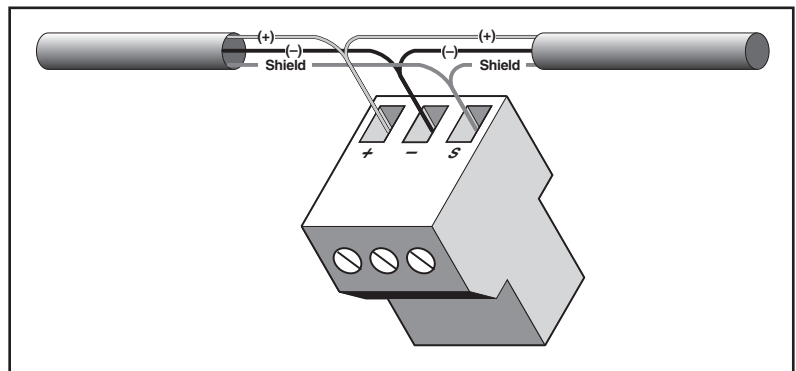

Figure 8 Wiring the RS-485 terminal block
Connect to Modbus network. Figure 8 on page 7 shows how to connect RS-485 communication wires.
6. Attach the RS-485 communication wires to the terminal block as shown in Figure 8 on page 7, then plug the terminal block into the red CT. (“Appendix C—Communications” on page 11 for additional communications information.)